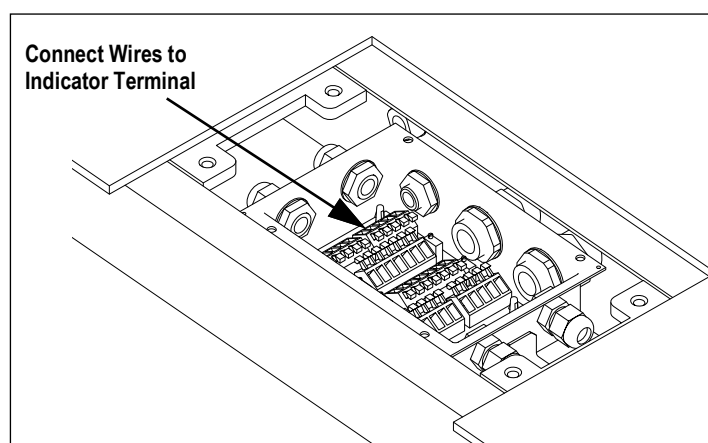

Figure 2-4. Junction Box Opened
6. Connect the wires to the indicator terminal (Figure 2-4) as shown in Table 2-1.